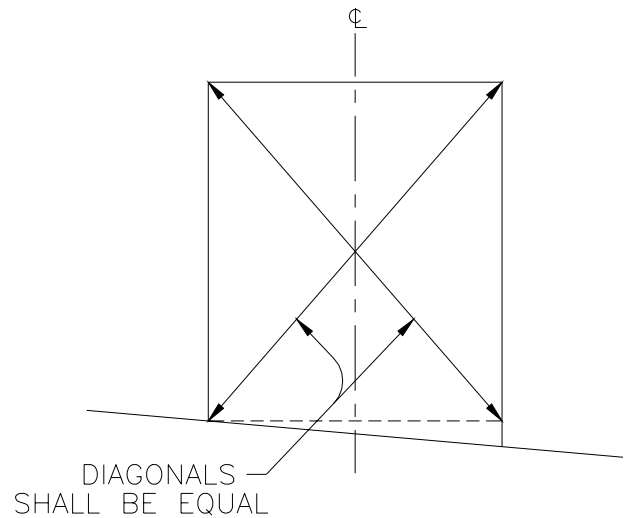

FIG. 1
- **If measurements do not coincide**, see Figures 1, 2, and 3.
- * **If floor is sloped**, level the floor in and around door opening (Figure 1).